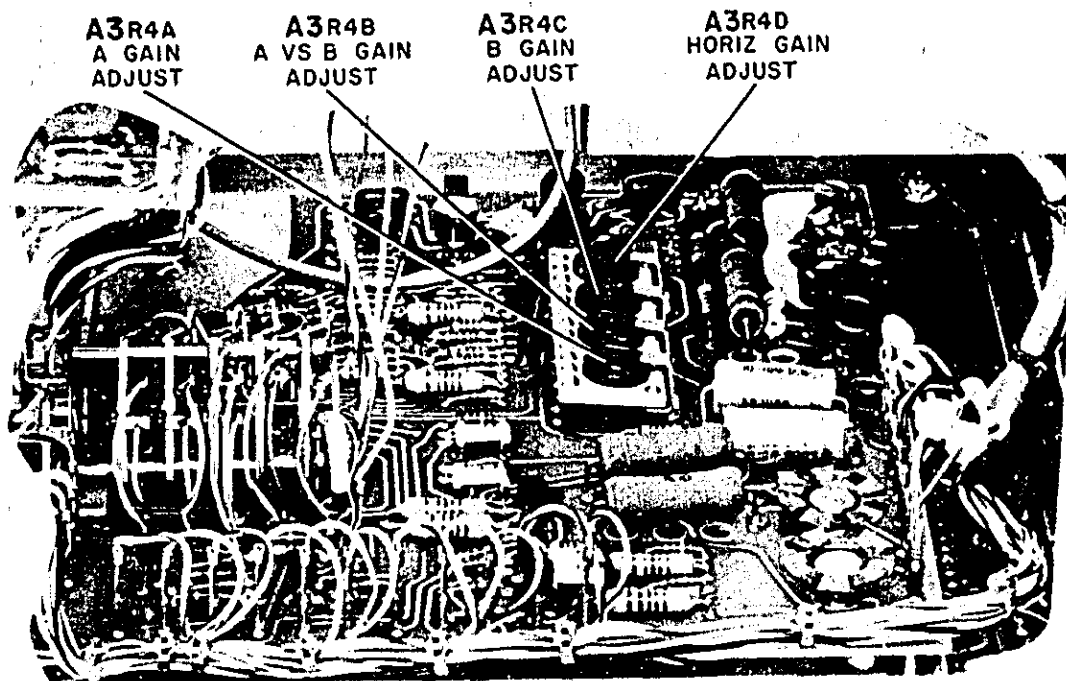

Figure 5-5. Dual Channel Output Amplifier Adjustments
e. Adjust A3R4A (see figure 5-5) for 5 divisions of vertical deflection.
m. Adjust A3R4B (see figure 5-5) for 5 divisions of horizontal deflection.
- u. Adjust A3R1C (see figure 5-5) for 5 divisions of vertical deflection.